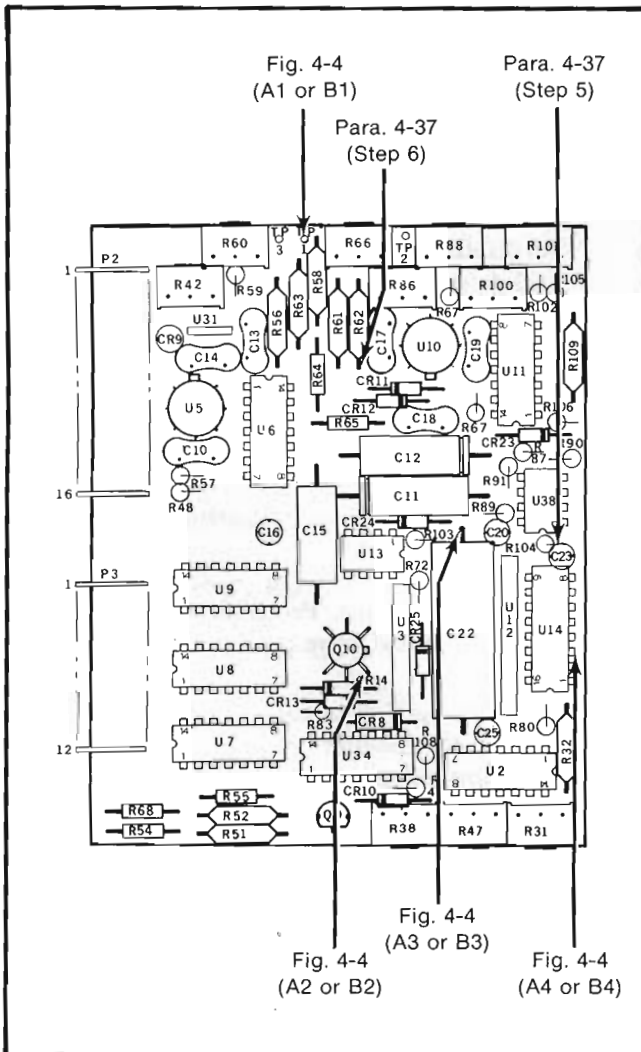

Figure 4-5. OSCILLOSCOPE CONNECTIONS FOR TROUBLESHOOTING
locations, with an in-range and overrange input applied to the 8040A. These points are; TP1 the buffer amplifier output, Q10 gate (same as U2 pin 7) the unity gain amplifier in the A/D converter, C22 (same as U2 pin 1) the output of the integrator amplifier and U14 pin 3 the compare signal (CM) sent to the digital circuitry. (See Figure 4-5 for the oscilloscope connection points on the 8040A boards.) Check the waveforms at these points as follows.